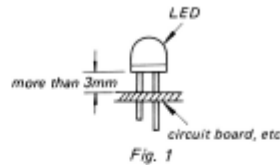

Fig. 1
- 1) Perform the soldering within 5 seconds with a soldering iron below 25W. The clearance between the end of the diode's body and the circuit board should be more than 3 mm ($1/8$ " (Fig. 1).